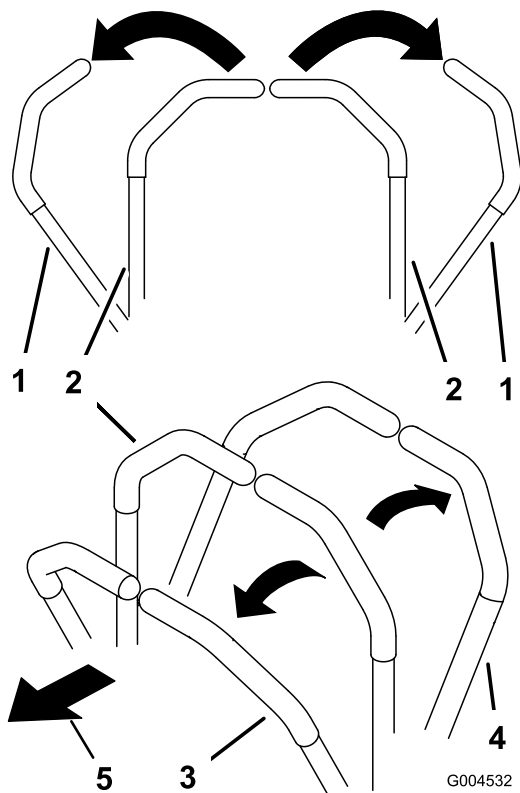

Figure 20
3. To go forward, slowly push the motion control levers forward (Figure 20).
To go straight, apply equal pressure to both motion control levers (Figure 20).
To turn, move the motion control lever toward neutral in the direction you want to turn (Figure 20).
2. To go backward, slowly pull the motion control levers rearward (Figure 20).
To turn, release pressure on the motion control lever toward the direction you want to turn (Figure 20).